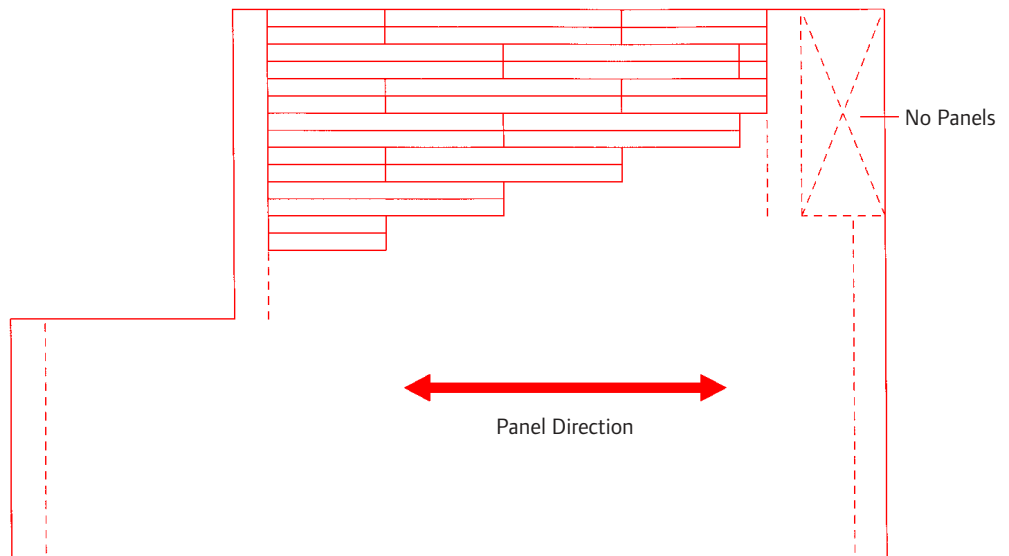

Figure 13: Stagger Panels So Seams Do Not Line Up
3. To improve structural integrity, stagger the panels in each row so the seams are not lined up next to each other. If you have to cut the last panel in the first row, you can use the other cut piece to start the second row. As an alternative, you may cut a panel in half and begin the second row. Continue this staggered pattern throughout the installation (see **Figure 13**).